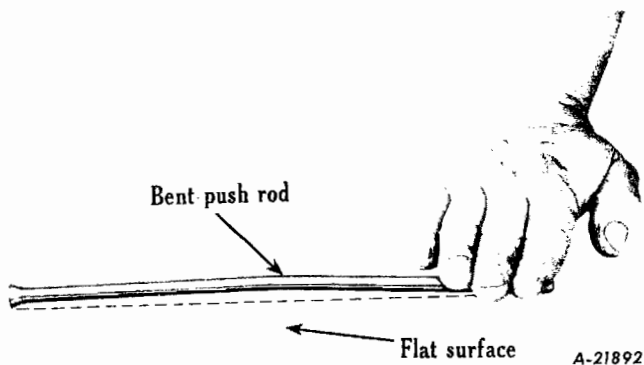

Fig. 61
2. Check all twelve valve lifter or push rods for straightness by rolling on flat surface. Replace any that are bent or have loose ends (Fig. 61).